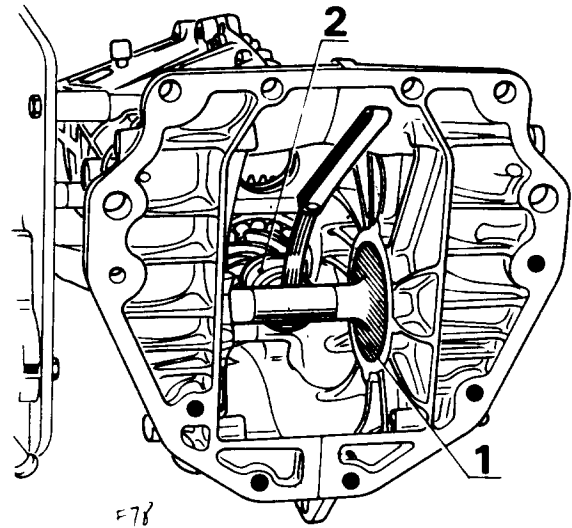

Fig. 43.
Fit mandrel (1). (see Fig.43.) Fit spacer (2) against the front face of the final drive pinion.